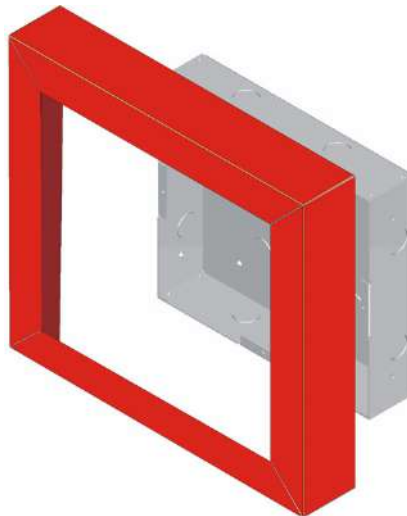

Figure 4.29 Installing Trim Ring
4. Place the trim ring over the backbox as shown in Figure 4.29.